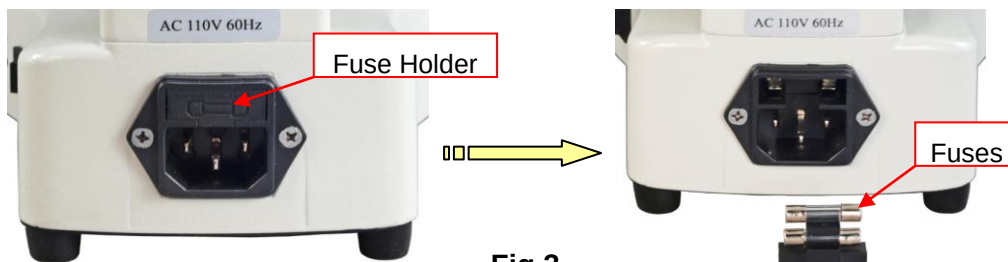

Fig.3
- 4) Replace the old fuse with a new one, and then insert it back in. See **Fig. 3**.